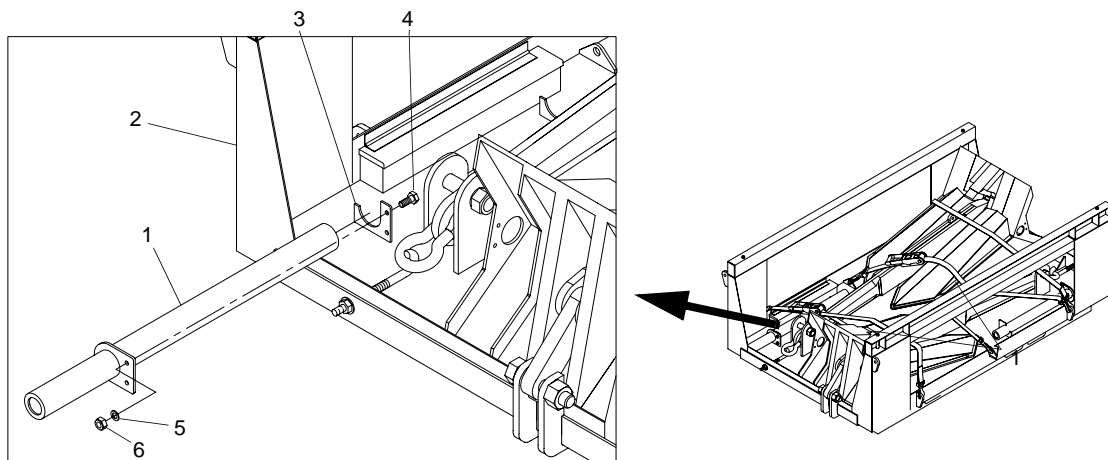

Figure 25. Anchor Stabilizers on Anchor Pallets
13. Install two anchor stabilizers (figure 25, item 1) on each anchor pallet (figure 25, item 2).
- a. Insert anchor stabilizers (figure 25, item 1) in brackets (figure 25, item 3) on anchor pallet (figure 25, item 2).
- b. Insert bolts (figure 25, item 4) through brackets (figure 25, item 3) and stabilizers (figure 25, item 1).
- c. Install lockwashers (figure 25, item 5) and nuts (figure 25, item 6) on bolts (figure 25, item 4) and tighten.
14. Install two tie down straps (figure 25, item 1) on anchor pallets (figure 25, item 2).